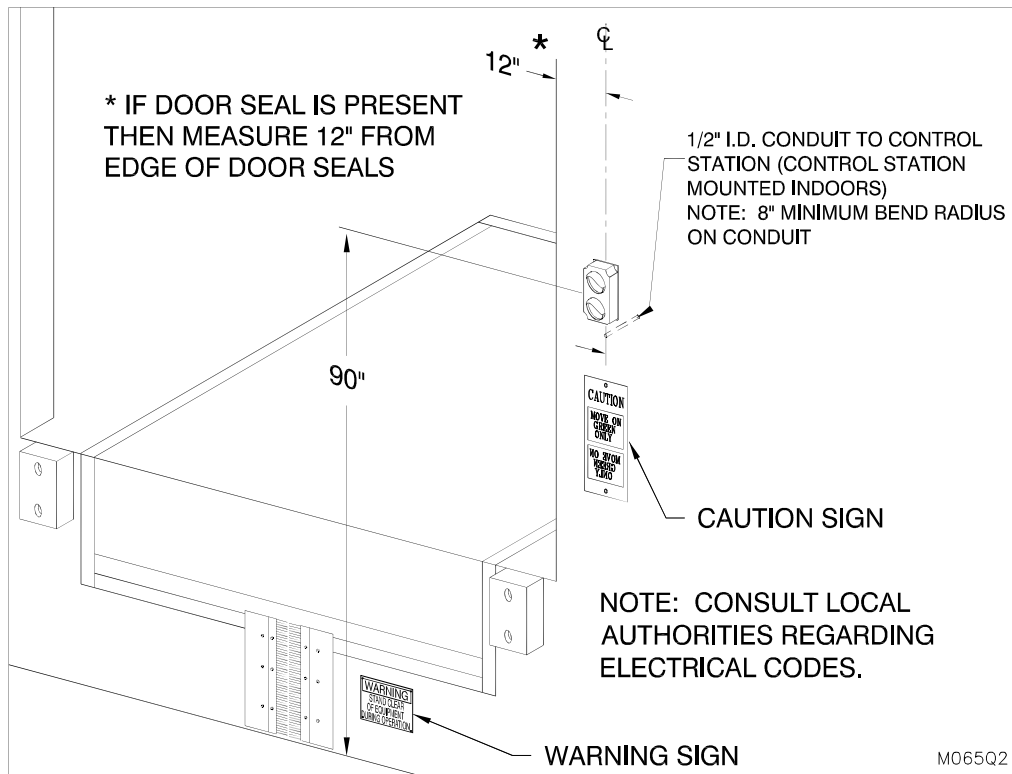

Figure 7: Mount Outside Light and Signs
11. ___ Mount the outside light approximately 90" from the center of the light to finished driveway level (See Figure 7: Mount Outside Light and Signs on page 11).
12. ___ Mount the mirror image caution sign above the outside light; the normal vision caution sign below the outside light and the "Warning Stand Clear..." sign centered vertically directly to the right of the Ultrahook (See Figure 7: Mount Outside Light and Signs on page 11).
1. ___ Install the "Warning, Stand Clear of Equipment During Operation" sign. Lag the sign to the foundation wall on driver side. (See Figure 7: Mount Outside Light and Signs Figure 7: Mount Outside Light and Signs on page 11)